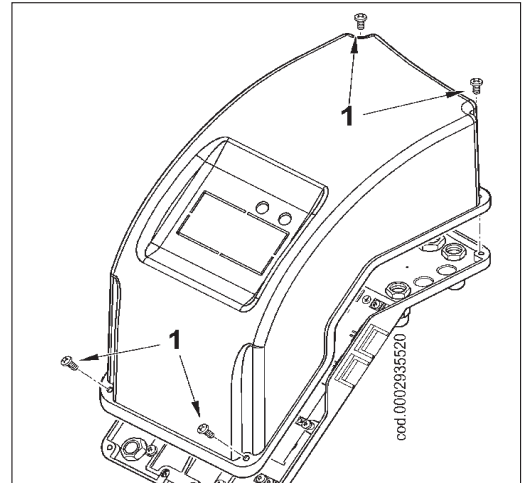

Fig. 1
- Unscrew the 4 screws (1) in figure 1. Remove the lid to access the burner's electrical panel.